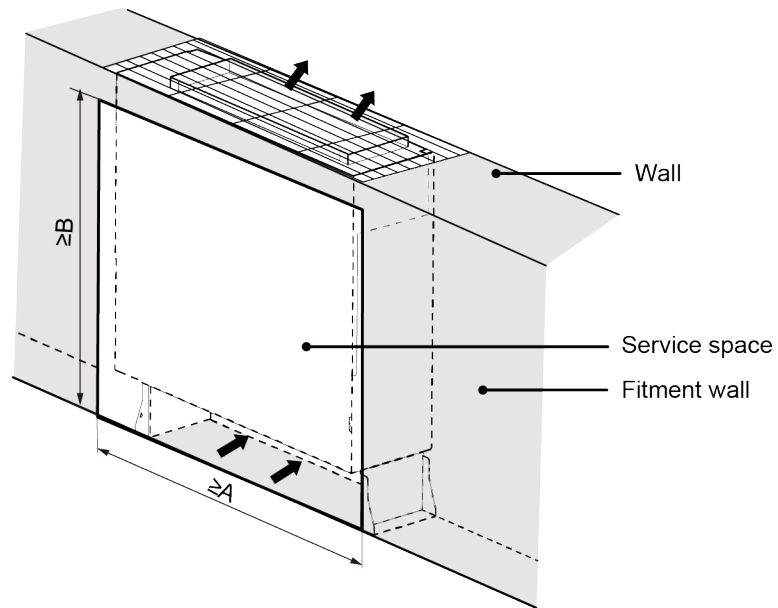

Fig.3.2.1
- (1) The appliance shall not be installed in the laundry.
- (2) The location should be able to withstand the weight of unit.
- (3) The ground for installing unit shall not be slant apparently.
- (4) Drain pipe can drain water out easily.
- (5) There is no obstacle at inlet or outlet. Please ensure good air circulation.
- (6) In order to make sure the space for maintenance, when the indoor unit was concealed installation, according to the dimension as shown in Fig.3.2.1.